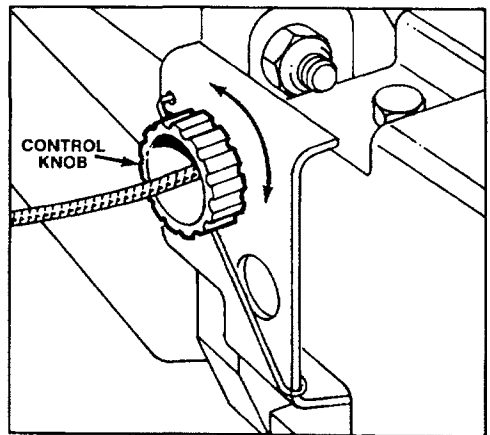

Figure 18
2. ADJUSTMENT (Fig. 18) — Rotate control knob clockwise 1/2 turn if mower does not self-propel. If mower creeps forward, rotate knob 1/2 turn counterclockwise to loosen belt.